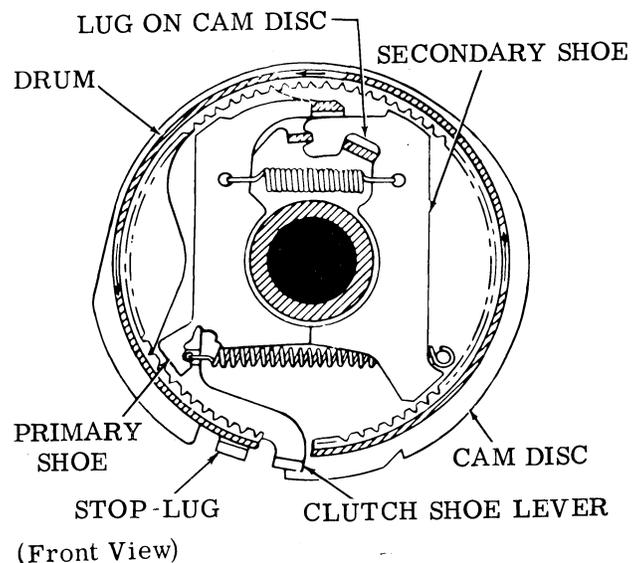

Figure 1 - Clutch Mechanism (Disengaged)
1.04 In its disengaged position the clutch is latched between the clutch trip lever, which bears against the shoe lever and the clutch latchlever, which is seated in the notch in the clutch disc (see Figure 1). In this position, the clutch shoes are not in contact with the clutch drum and the shaft may be rotated freely. When
the shaft is turned by hand, the clutch does not fully disengage upon reaching its stop position. If a requirement calls for disengagement, rotate the clutch to its stop position, apply pressure with a screwdriver to the stop-lug (Figure 1) and turn the stop in the normal direction of shaft rotation until the latchlever falls into its notch. When the clutch is engaged, the shoe lever is unlatched and the shoes are wedged against the drum. This forces the clutch to turn with the shaft.